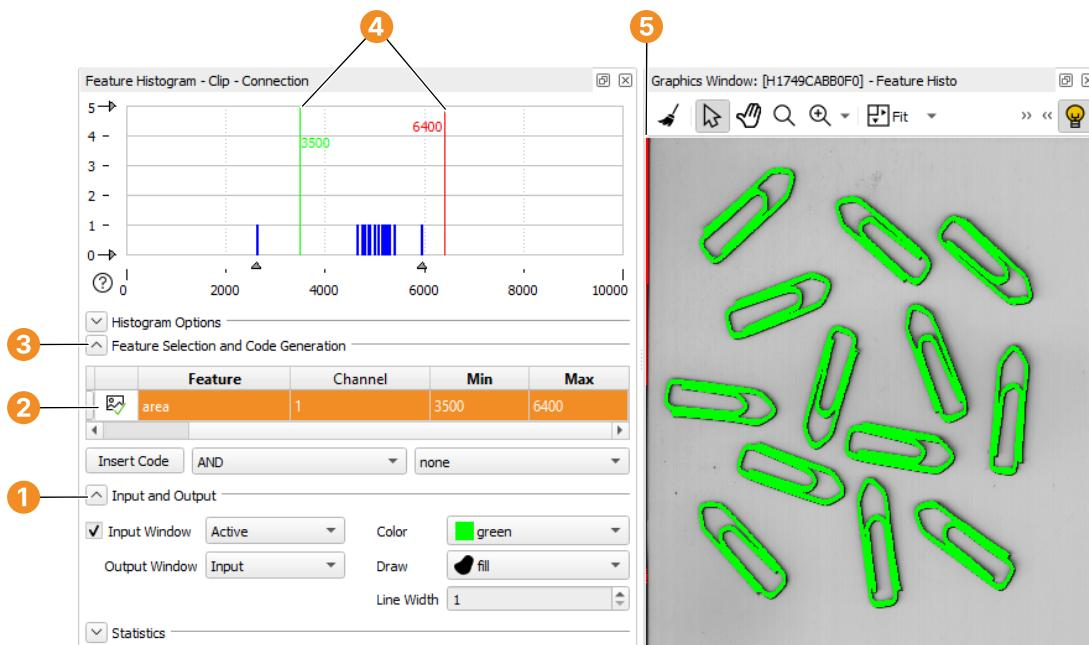

Figure 4.8: Selecting regions with a similar area in the feature histogram.
Inspecting the variable `ConnectedRegions` after the changed threshold operation yields a much better result. Still, a contiguous area at the left edge of the image is returned ⑤; see figure 4.8. To obtain only the regions that coincide with the clips, we need to further reduce the found regions based on a common criterion. Analogous to the gray histogram tool, which helps to select regions based on common gray values, HDevelop provides a feature histogram tool, which helps to select regions based on common properties or features.